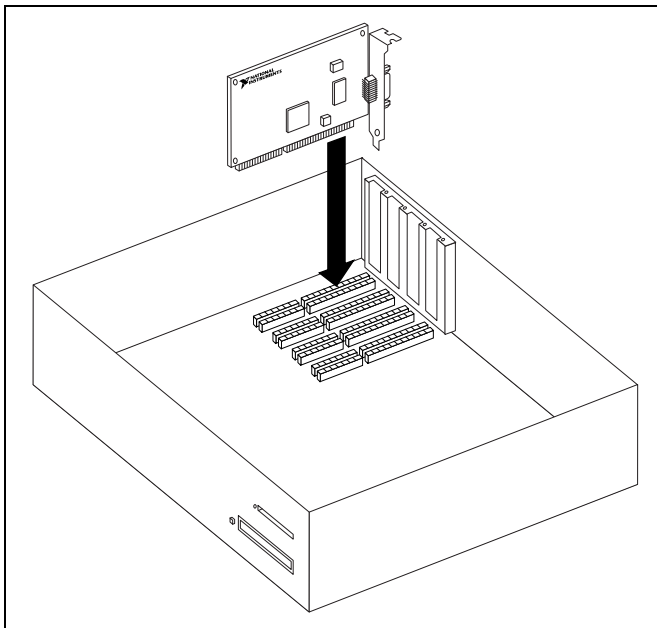

Figure 3. Installing the AT-GPIB/TNT
6. Insert the AT-GPIB/TNT into the slot with the GPIB connector sticking out of the opening on the back panel, as shown in Figure 3. It might be a tight fit, but do not force the board into place.